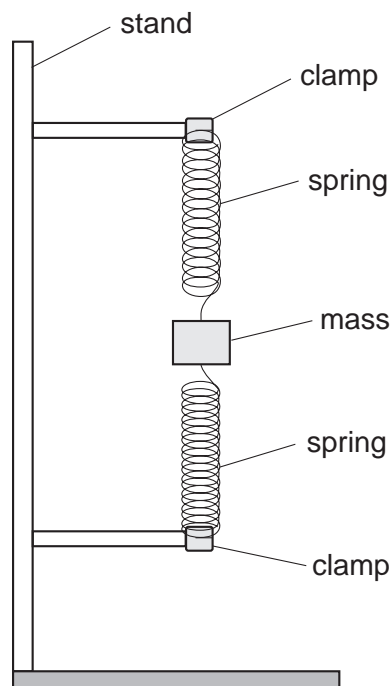

Fig. 3.1
1. The apparatus is to be set up as shown in Fig. 3.1, with the 400 g mass between the two springs.